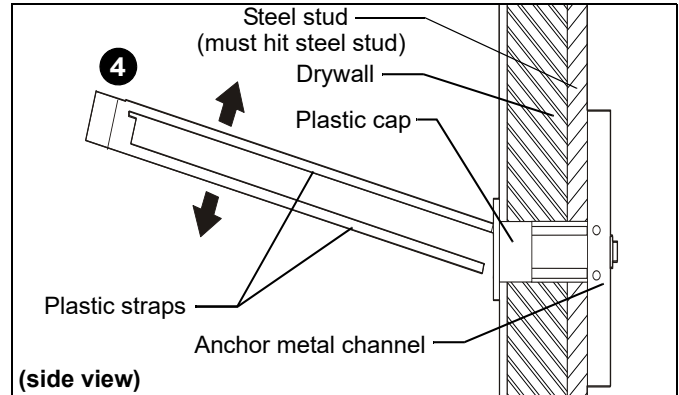

Figure 7
4. Snap off plastic straps on anchor at wall by pushing side to side, snapping off straps level with flange of plastic cap. (See Figure 7)
5. Slide rails from the XTM1U/XSM1U mounting system through the three Fusion wall plates. (See Figure 7)
6. Reattach end caps to the rails. (See Figure 7)